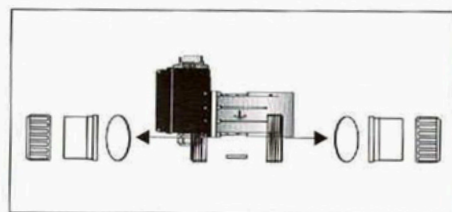

Fig. 5
-2.5 Heater installation:(Fig.5)